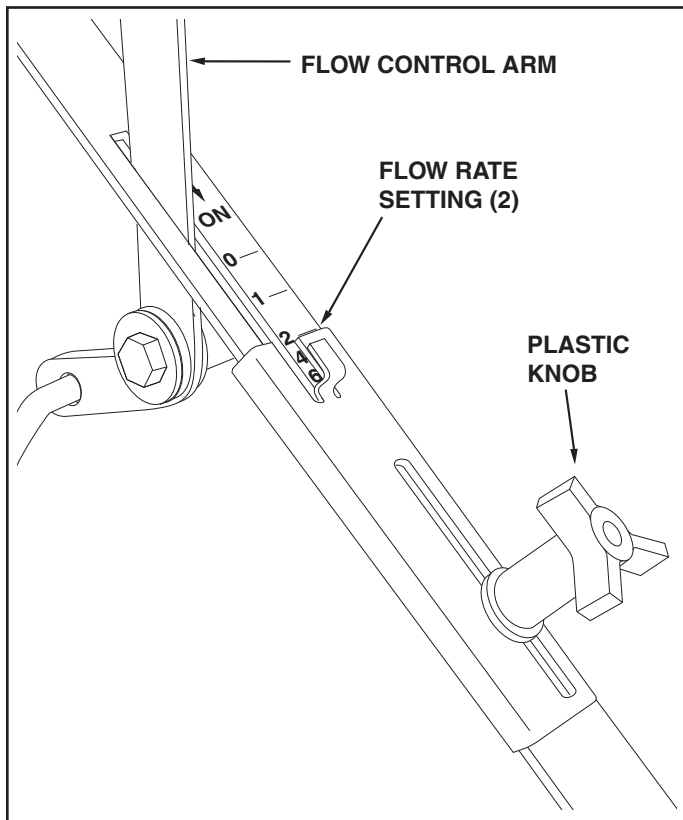

FIGURE 7
2. Loosen the plastic knob and adjust the flow control gauge to the recommended setting. Retighten the knob. See figure 7.